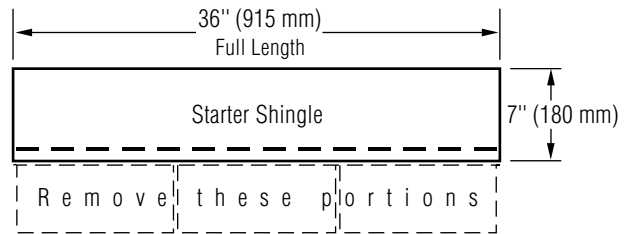

Figure 15-6: Make starter shingles by removing the lower 5" tabs.
1. Use CertainTeed's pre-cut (10" x 36") or use standard three-tab self-sealing shingles as the starter shingles, after removing the lower 5" tab portions (Figure 15-6).